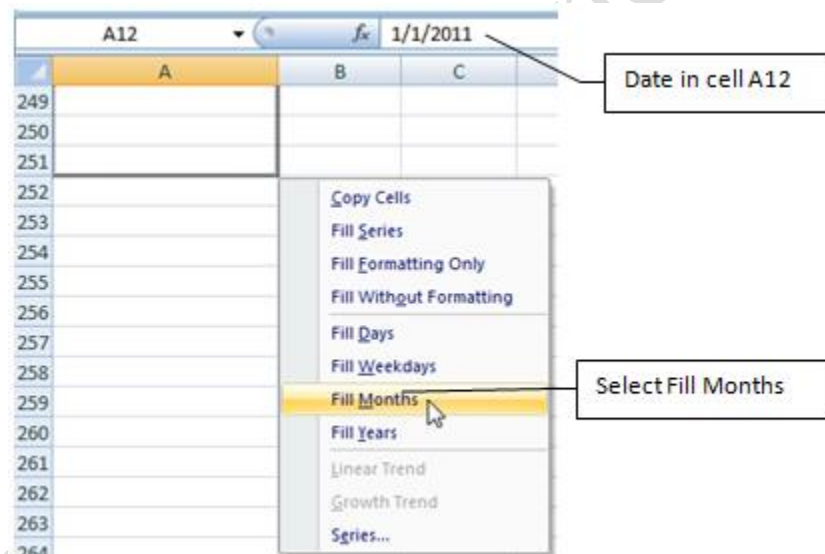

Figure 11.16. A shortcut menu displays options when filling with the right mouse button.
4. Point to the fill handle in cell A12 and use the **right** mouse button to drag the fill handle down to cell A251. If you go too far, continue to hold down the right mouse button and point to the top of the worksheet until row 251 displays, and then release the mouse button. On the shortcut menu that displays as shown in Figure 11.16, use the left mouse button to click Fill Months. The final date in cell A251 is 1-Dec-30.